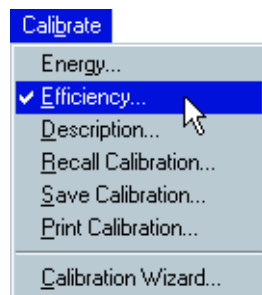

Fig. 21
1.20 To begin the Efficiency Calibration, choose **Calibrate, Efficiency** (Fig. 21). Next, click the Windows icon in the upper left-hand corner of the **Calibr** window and select **Destroy** (Fig. 22). This will eliminate any existing efficiency calibration information — the energy and peak width calibration will remain intact.